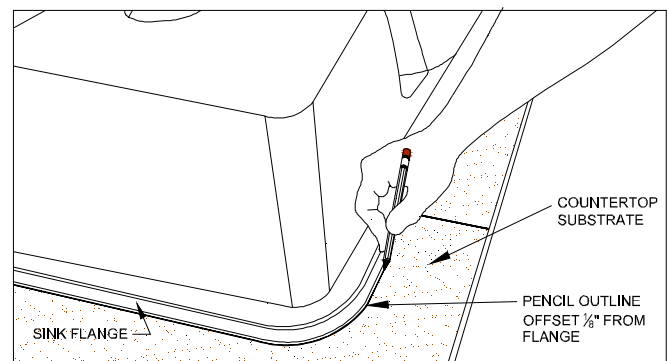

Figure 19B
- With a pencil, trace the sink perimeter leaving a $\frac{1}{8}$ " gap between the pencil line and the rim of the sink. (FIG. 19B)